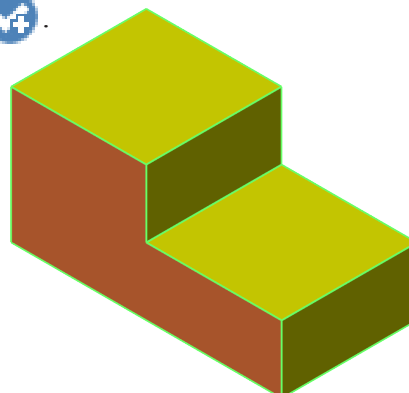

Fig. 29
Step 8. Continue and create surfaces to cover block with surfaces, **Fig. 29**. Click **Single**  (S), select the **two chains**, press **ENTER** and click **OK and Create New Operation** .